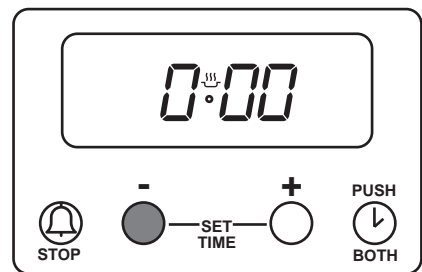

Fig. 6
To set, press button (1) and the display will read $0^{\text{h}}:00$, see Fig. 6.